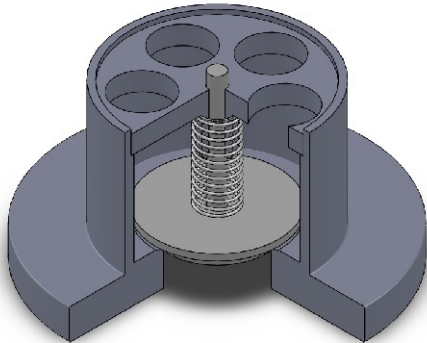

Figure 1: Valve Cutaway
5. Insert the valve body inside the pipe or tank nozzle until valve flange comes in contact with pipe or tank flange. Make sure gasket is installed and properly positioned (see Figure 1).